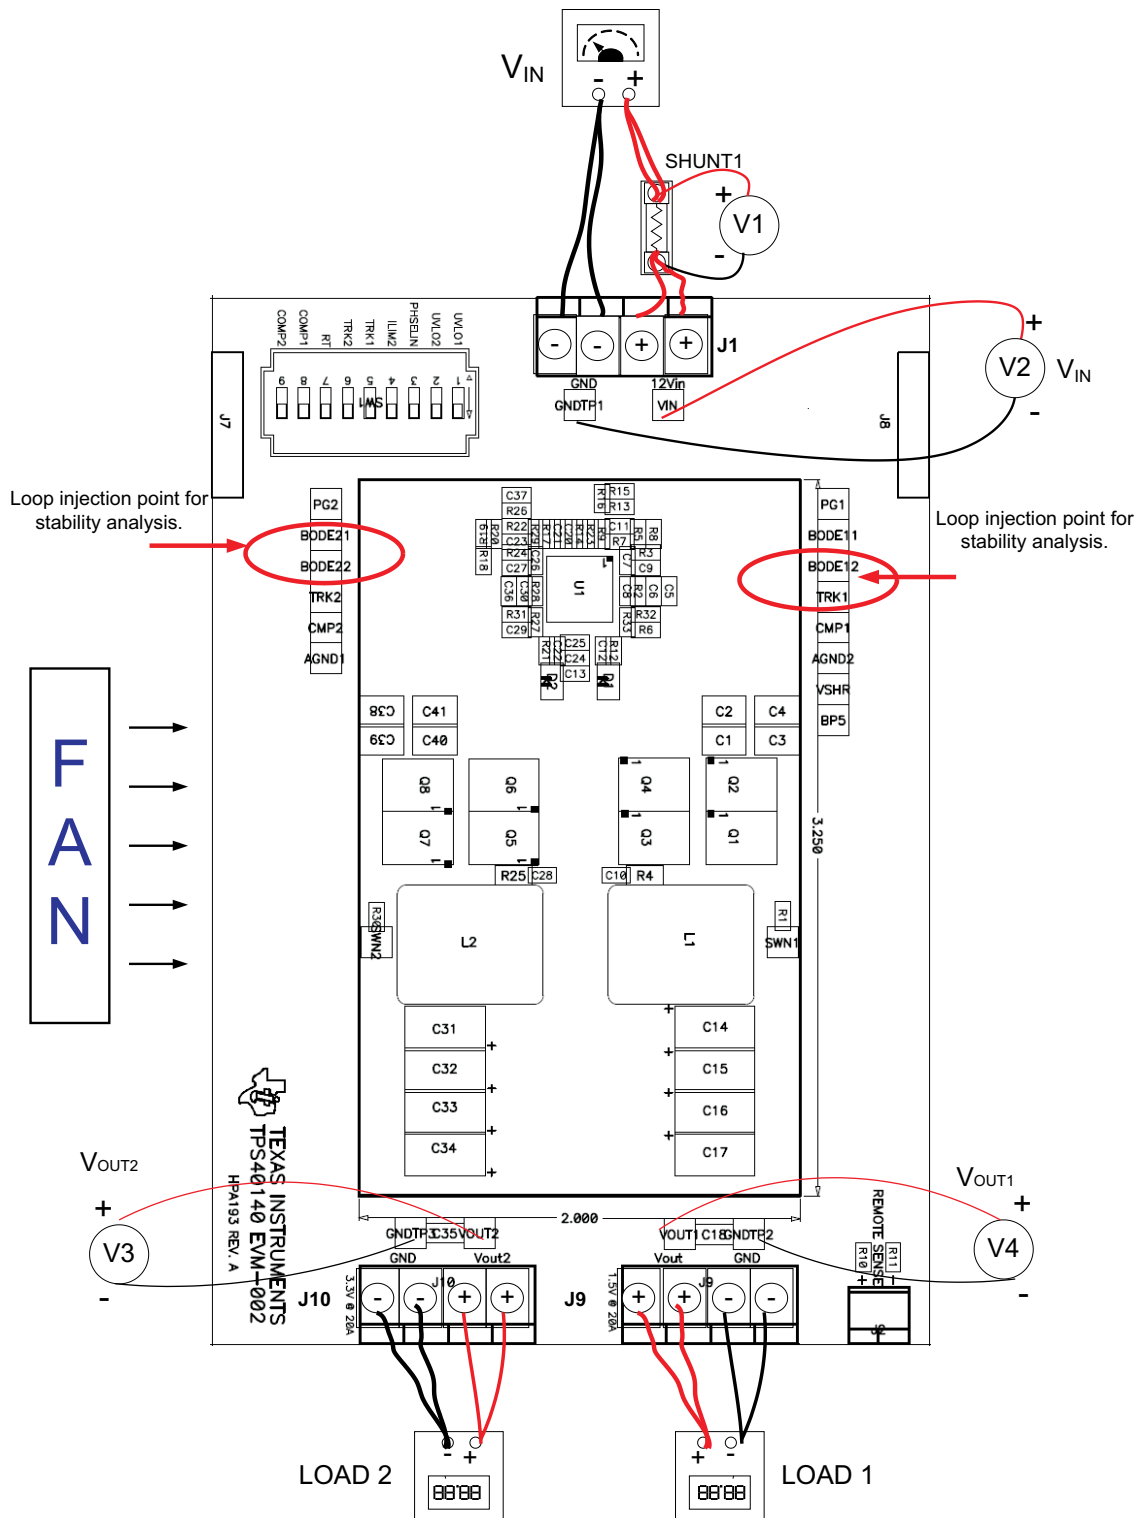

Figure 3. TPS40140EVM-002 Recommended Test Set-Up
The input voltage source (V_{IN}) should be a 0–15V variable dc source capable of 20-Adc. Connect V_{IN} to J1 as shown in Figure 3.
Shown in Figure 3 is the basic test set up recommended to evaluate the TPS40140EVM-002.
1. Prior to connecting the dc input source, V_{IN} , it is advisable to limit the source current from V_{IN} to 20A maximum. Make sure V_{IN} is initially set to 0V and connected as shown in Figure 3.
2. For more accurate current measurement it is recommended to use a current measuring shunt. Connect the two wires from J1 to SHUNT1 then connect SHUNT1 using two more AWG #16 wires to the positive terminal of V_{IN} dc source, as shown in Figure 3.
3. Connect voltmeter, V3, across VOUT2 and GNDTP3, as shown in Figure 3.
4. Connect voltmeter, V4, across VOUT1 and GNDTP2, as shown in Figure 3.
1. Place a fan as shown in Figure 3 and turn on, making sure air is flowing across the EVM.